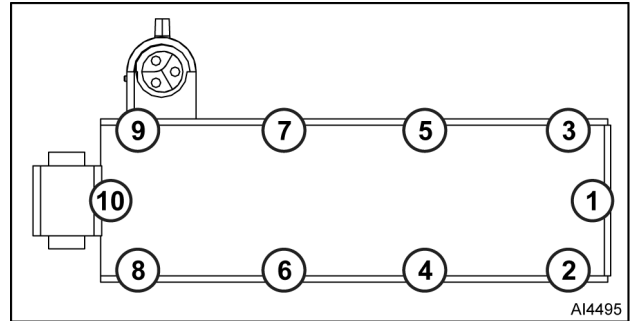

Fig. 26
**NOTE:** Tighten heating element screws evenly to 70 in-lbs. Follow tightening sequence pattern as shown in Fig. 26.